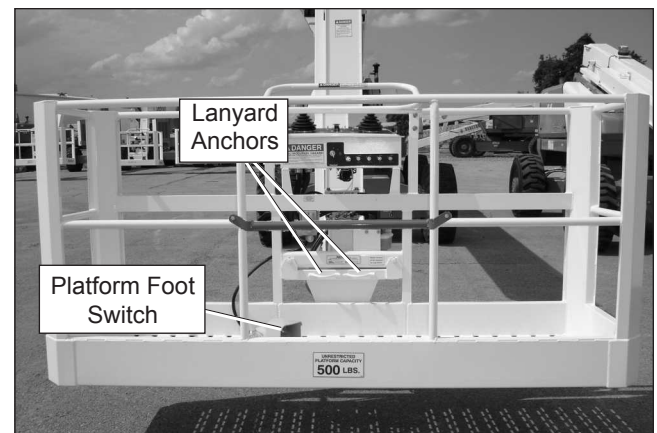

Figure 8.3 – Platform
5. Attach the fall restraint lanyard to one of the anchor points (refer to Figure 8.3).